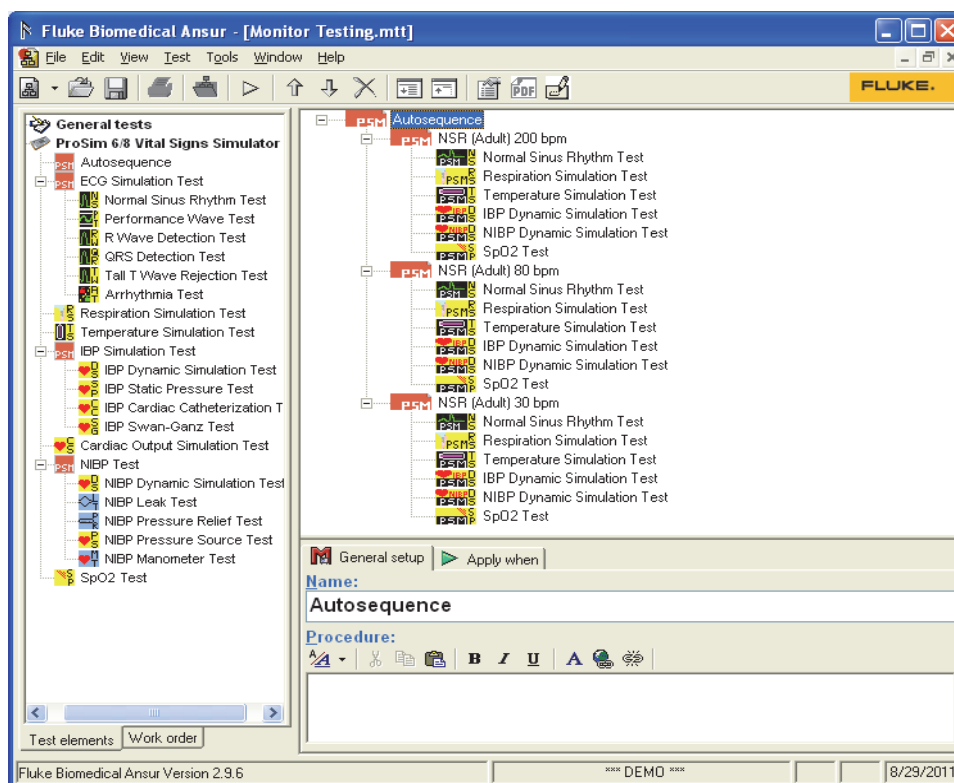

Figure 3-20. Monitor Testing Template
5. Highlight Monitor Testing.mtt and click the **Open** button to open the template shown in Figure 3-20.
As Figure 3-20 shows, there is one Auto Sequence container that contains three more Auto Sequence containers, or steps. Each step has a test for ECG signal (Normal Sinus Rhythm), respiration, temperature, IBP, NIBP, and Oximeter SpO2 optical emitter and detector testing. The three steps have been labeled NSR (Adult) 200 bpm, NSR (Adult) 80 bpm, and NSR (Adult) 30 bpm.